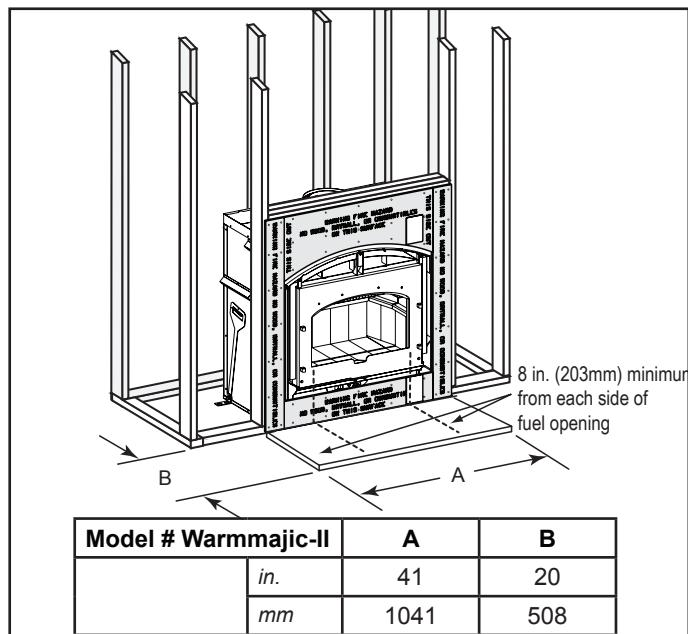

Figure 7.6 Minimum Hearth Extension Dimensions
- Refer to Figure 7.6 for minimum dimensions.
- Fireplace and Hearth Extension flush on the floor Non-combustible flooring a minimum of 20 in. (508 mm) in front of and 8 in. (203 mm) to either side of the fuel opening is required as shown in Figure 7.6.
Non-combustible flooring a minimum of 20 in. (508 mm) in front of and 8 in. (203 mm) to either side of the fuel opening is required (see Figure 7.6).